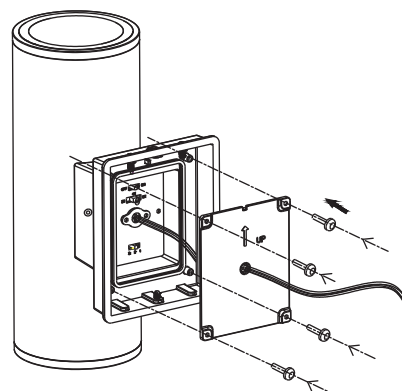

fig. 3
3. Identify arrow and notch on the cover for upward direction of the luminaire. Attach back the cover and tighten the screws. (Figure 3)